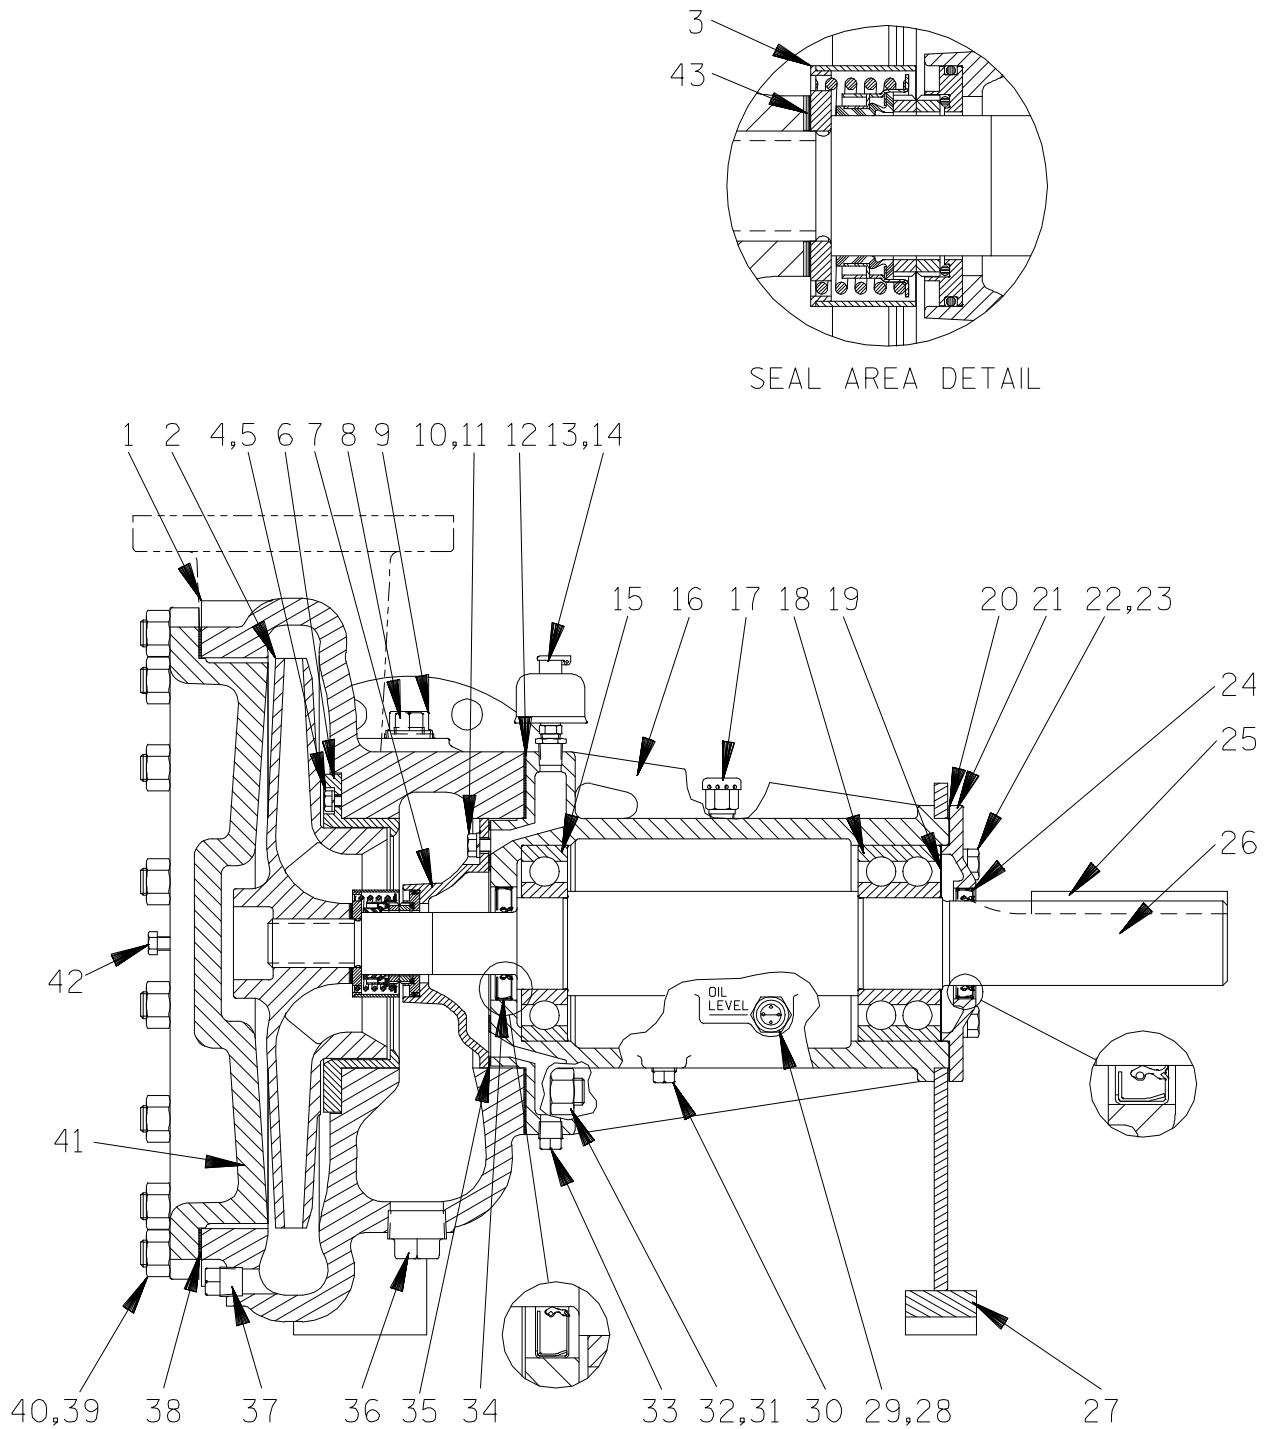

Figure 1. Pump Model 54J20-B
This pump requires little service due to its rugged, minimum-maintenance design. However, if it becomes necessary to inspect or replace the wearing parts, follow these instructions which are keyed to the sectional view (see Figure 1) and the accompanying parts list.
(Figures 1 and 4)
Position the inboard oil seal (34) in the pedestal bore with the lip positioned as shown in Figure 1. Press the oil seal into the bore until the face is **just flush** with the machined surface on the pedestal.